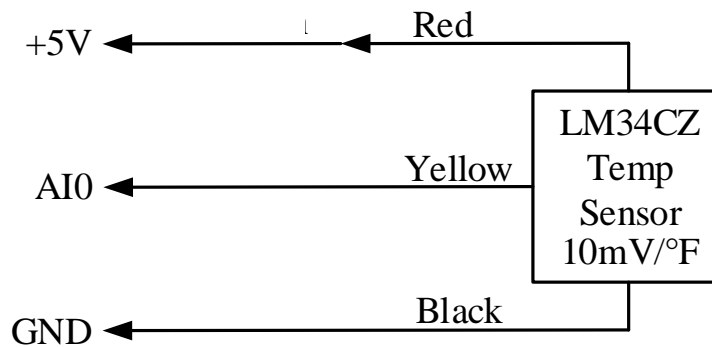

Figure 1. LM34CZ Wiring Diagram
In this experiment the static transfer function and time constant of an electronic temperature sensor will be investigated. The sensor is an LM34CZ (see datasheet). This device is designed to provide an output voltage with a static sensitivity of 10mV/°F. The device has three leads; +V (red), Vout (yellow), and ground (black). The LM34CZ used in this lab has been sealed in a small tube to prevent moisture from coming in contact with the electrical terminals. A three-conductor cable has been attached to the device. (**The sensor and cable connections are fragile. Handle them carefully.**) Connect the cable wires to the NI USB DAQ unit as shown in Figure 1.
1. Connect the circuit shown in Figure 1.